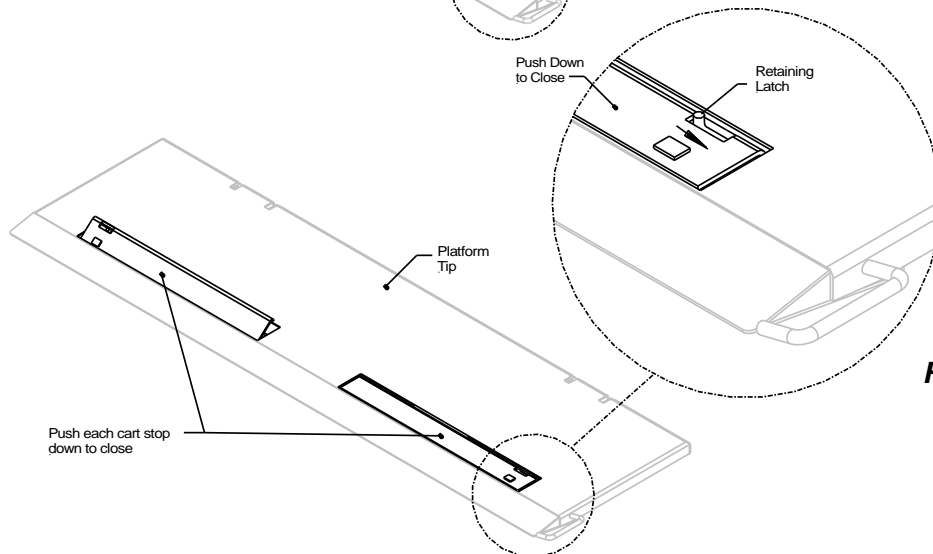

Fig. 19
2. To close the cart stop, push and hold each cart stop down in close position and lock each cart stop with the retaining latch, **Fig. 19**.